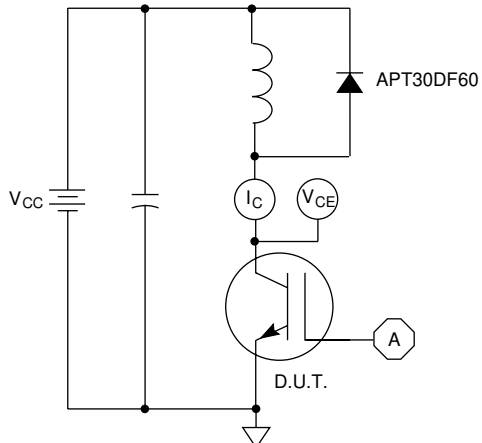

Figure 21, Inductive Switching Test Circuit
⑤  $E_{on2}$  is the clamped inductive turn-on energy that includes a commutating diode reverse recovery current in the IGBT turn-on switching loss. A Combi device is used for the clamping diode as shown in the  $E_{on2}$  test circuit. (See Figures 21, 22.)
⑥  $E_{off}$  is the clamped inductive turn-off energy measured in accordance with JEDEC standard JESD24-1. (See Figures 21, 23.)